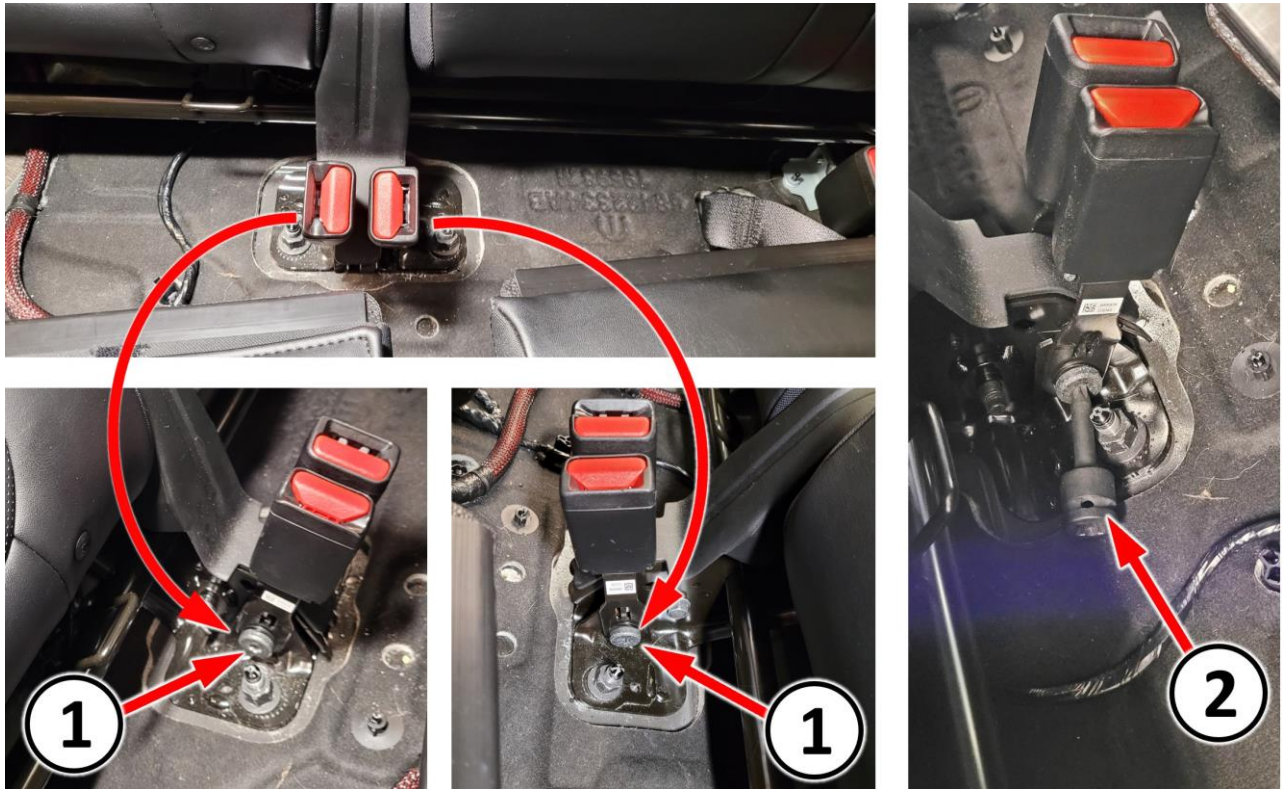

Figure 4 – Center Seat Belt Buckle Bolts
7. Using a long reach T-50 Star Bit (Torx®) to clear the floor stud, tighten both center seat belt buckle bolts to 45 N·m (33 Ft. Lbs.) (Figure 4).